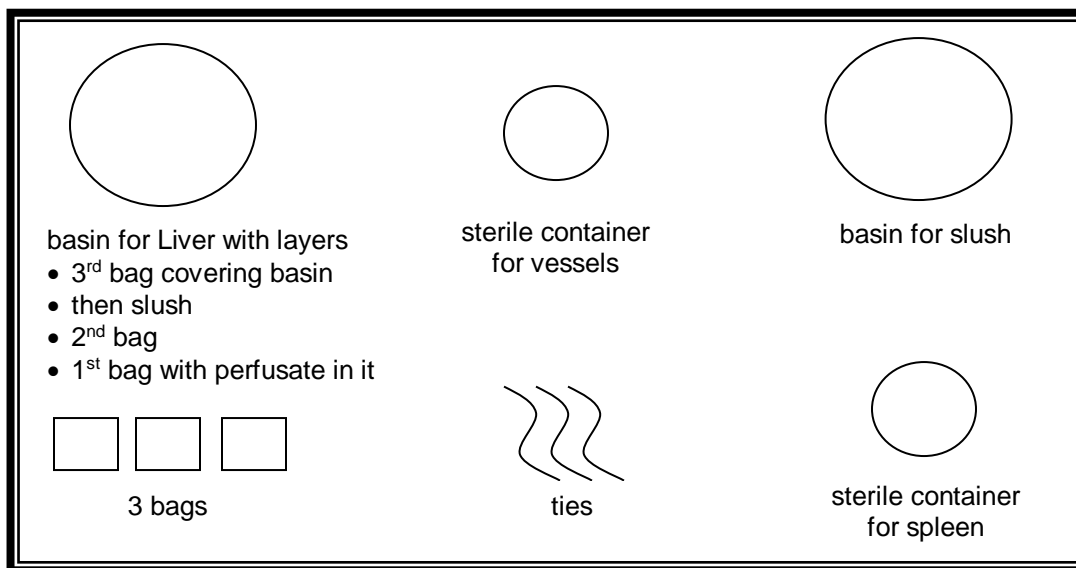

Figure 1: Sterile Back Table Set-up for Liver
14. The SRC asks the OR staff for 1 or 2 intravenous (IV) poles for use during perfusion, a table and 2 sterile basins for abdominal slush and liver packaging.
17. The SRC scrubs in as per aseptic protocol and prepares the back table with the assistance of the circulating nurse. See Figure 1. The following materials are required: